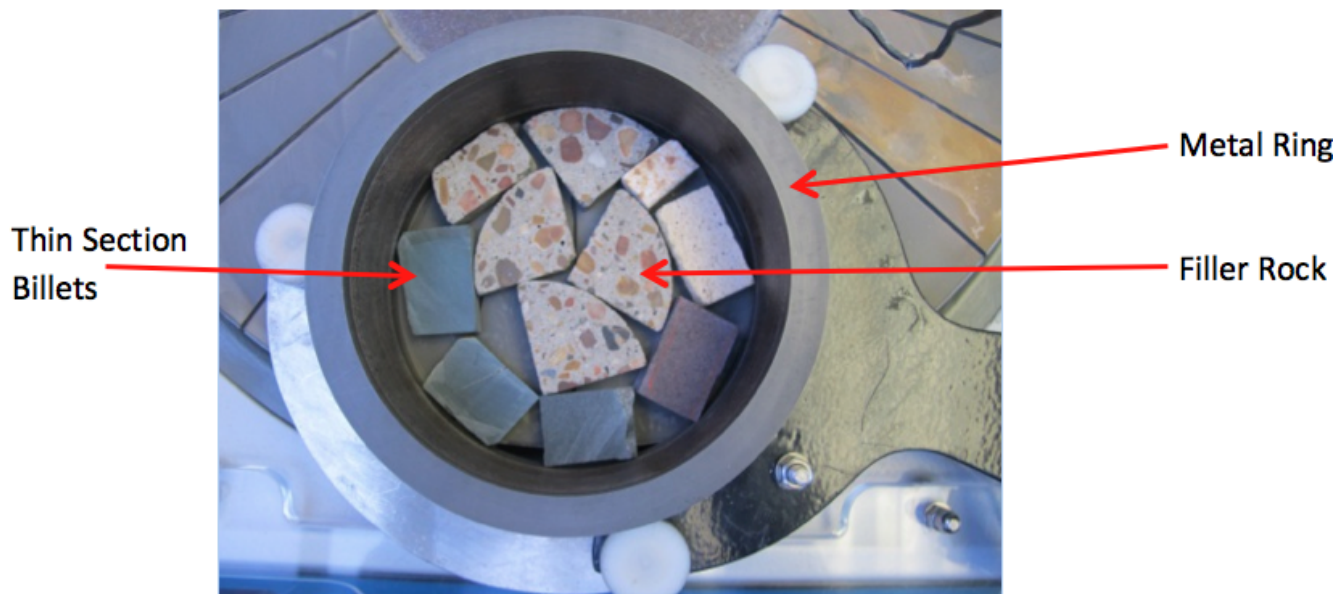

Figure 2
2. Place metal ring in the forward arm (Fig. 2 and 3).
- a. Place the billets around the outer edge of the ring (Fig. 2) with their number facing up. If there is a small billet it should be placed in the middle.
3. Fill in the empty space with filler rocks (Fig. 2).